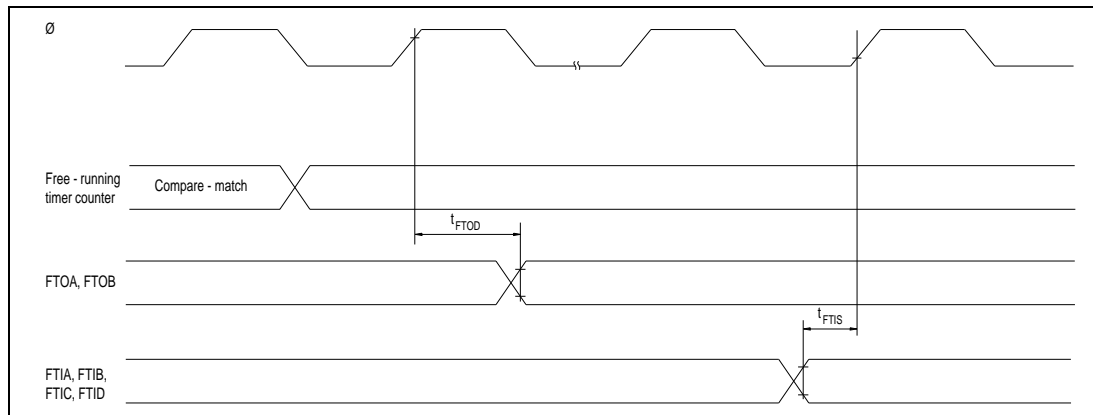

Figure 16-10. Free-Running Timer Input/Output Timing
16.3.3 16-Bit Free-Running Timer Timing	Figures 16-10 to 16-11